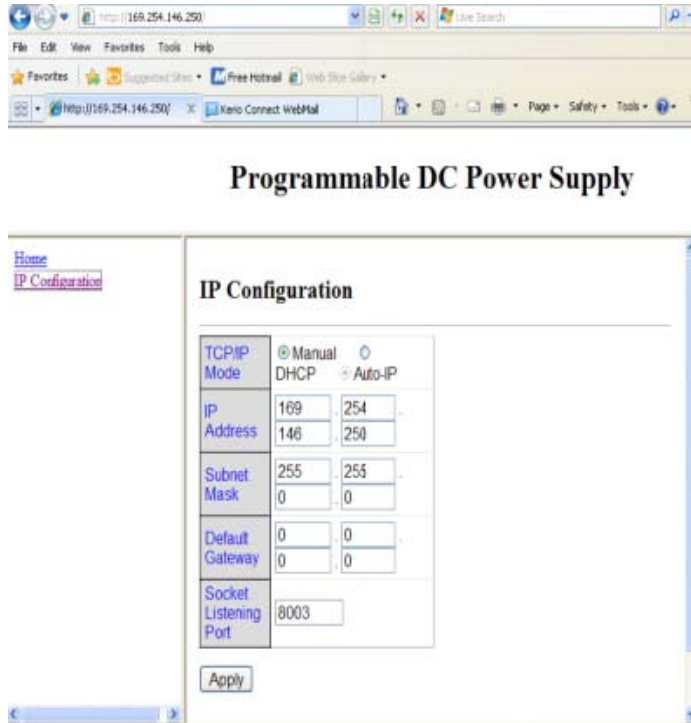

FIGURE 3-6. IP CONFIGURATION
3. Click IP Configuration in the front page to view the TCP/IP Mode, IP address, Subnet Mask, Default Gateway and Socket Listening Port (see Figure 3-6).